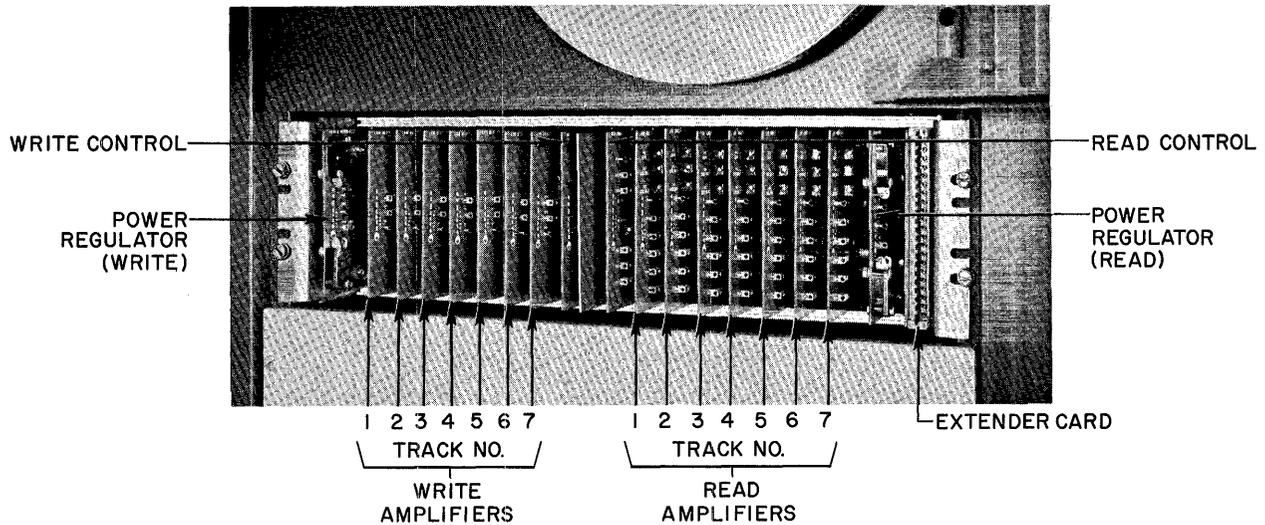

Figure 2-9
While it is not absolutely necessary, it is recommended that all of the circuit cards be removed from the card cage during installation. Record read and write card serial numbers as they are removed so they may be returned to the same position (see Fig. 2-9).
Step 11: Reinsert the circuit cards if they were removed prior to installation. The proper location is shown in Fig. 2-9.